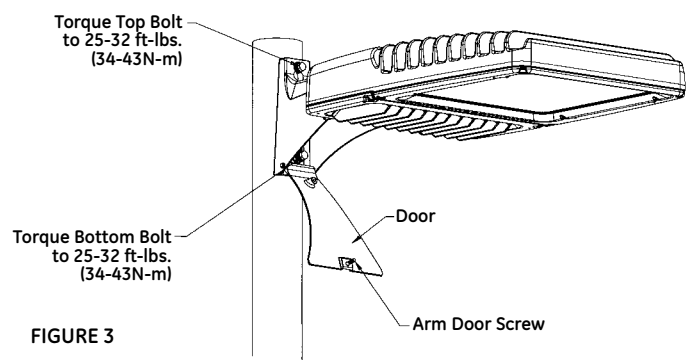

FIGURE 3
- Open arm door and install 3/8 bolt, lock washer and washer inside arm as shown and tighten into nut plate. (See Figure 3 and 4)